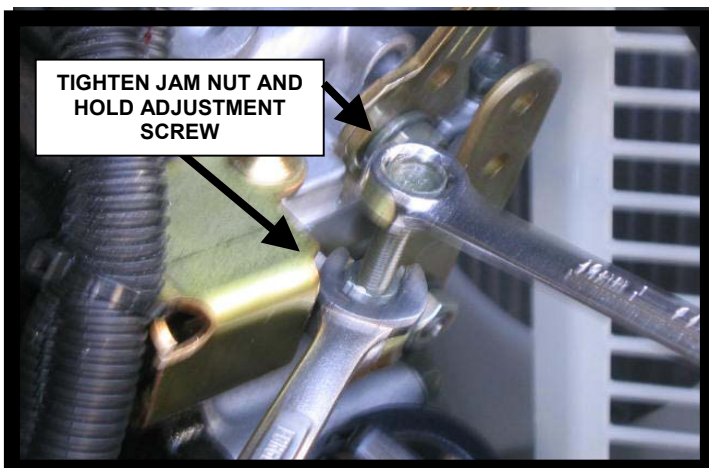

FIGURE 3 **TIGHTEN JAM NUT**
5. Maintain position on the engine speed adjustment screw and tighten the jam nut by turning the jam nut clockwise until tight (Figure 3).